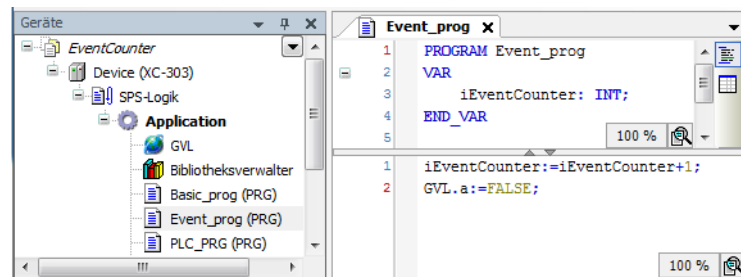

Figure 51: Programmed element for event controlled task
- ▶ You can now enter a program. The program example Param_prog (Figure 51) increments the variable "value" by the value 1. The Param_prog is processed if the variable a = TRUE.